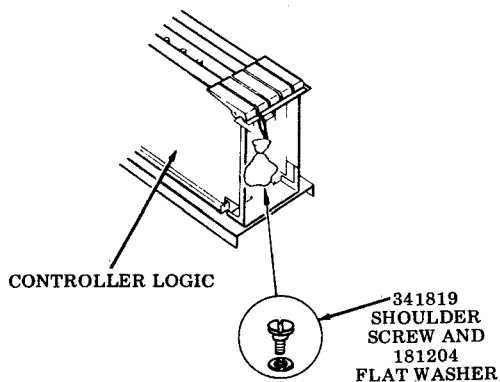

Fig. 29
Step 11 — Remove muslin bag containing 341819 shoulder screw and 181204 flat washer used to mount the controller logic into the frame and retain for later assembly (Fig. 29).